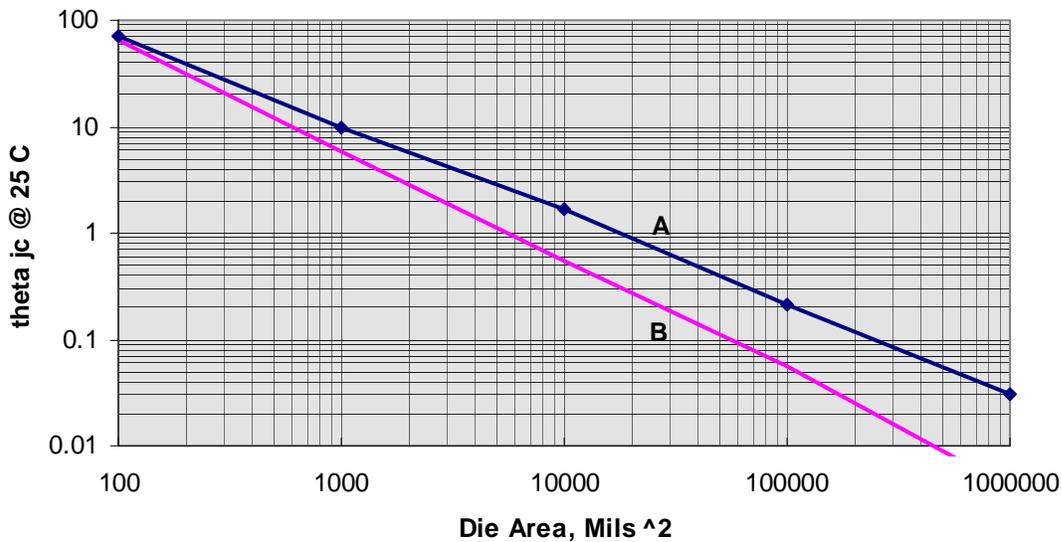

Figure 2  $\theta_{jc}$  for various die sizes (plot B) and combined die and 60 mil BeO (plot A)
- 1.2. For a given package the  $\theta_{jc}$  is in direct relation to the die area or more exactly the active area. In other words, the larger the die, the lower  $\theta_{jc}$ . Transistors designed for higher power levels have larger dice in general than low power transistors, but UHF and microwave devices with their denser geometries have smaller active areas than lower frequency units for a given power level. As an example, an 80 watt VHF transistor has typically 20-22 K mils2 of die area. From Fig 2. we can find the die  $\theta_{jc}$  as 0.3 °C/W (plot B). When a 60 mil (1.5mm) thick BeO insulator is added to the thermal chain (plot A), the total  $\theta_{jc}$  becomes 0.7-0.8 °C/W. 4